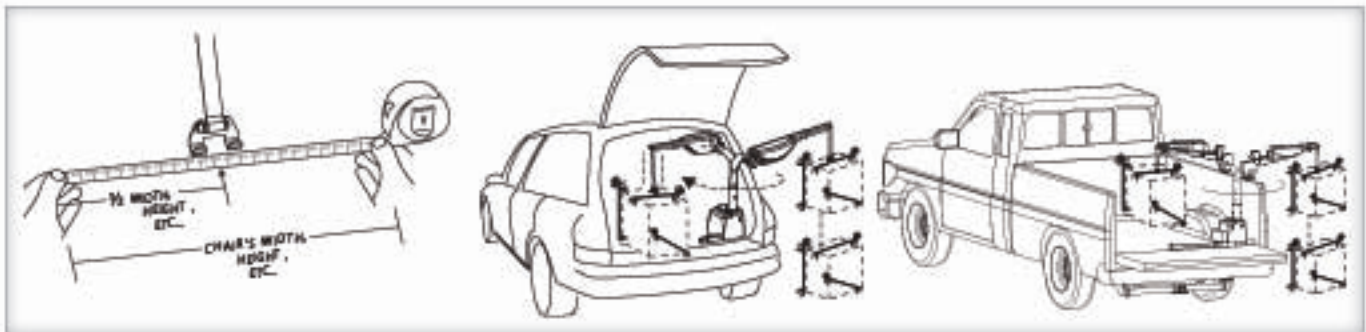

Figure 17-2
4. **Simulate each of the chair's dimensions** (length, width and height) while running the lift through its full range of motion in and out of the cargo area. [Figure 17-2]